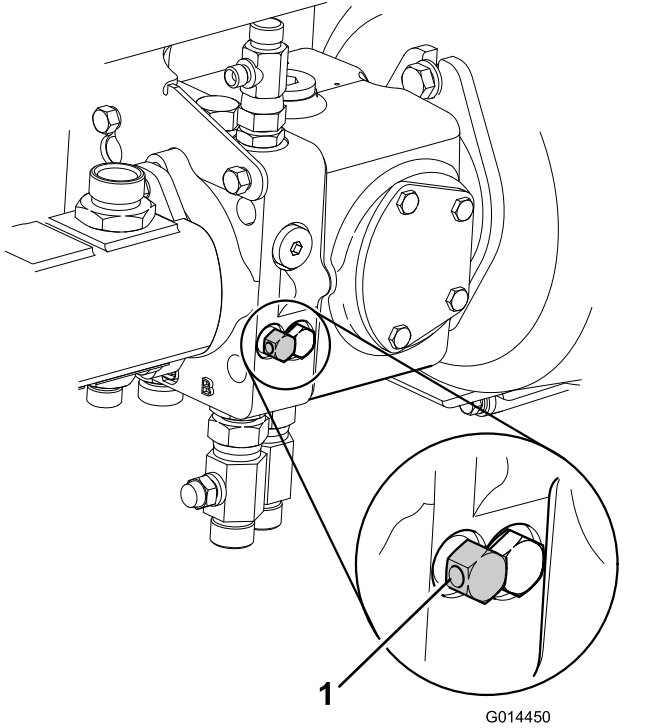

Figure 37
7. Decommission the hydraulic service braking system by turning the bypass valve, located under the transmission pump, counterclockwise, a maximum of 3 turns (Figure 37).